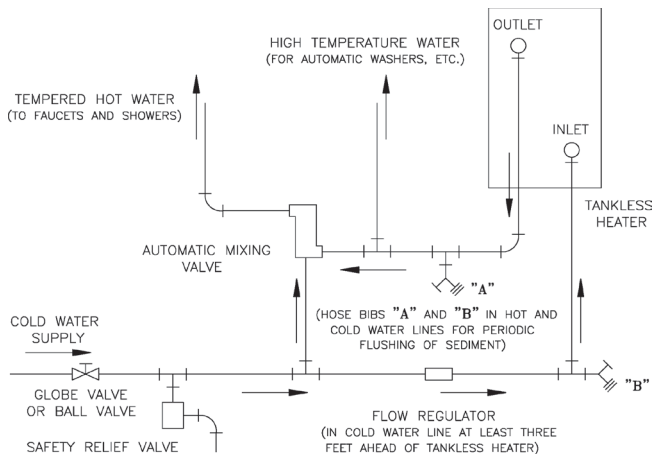

Figure 14: Schematic Tankless Heater Piping
- I. CONNECT TANKLESS HEATER PIPING AS SHOWN IN Figure 14. See Table 4 for Tankless Heater Ratings.